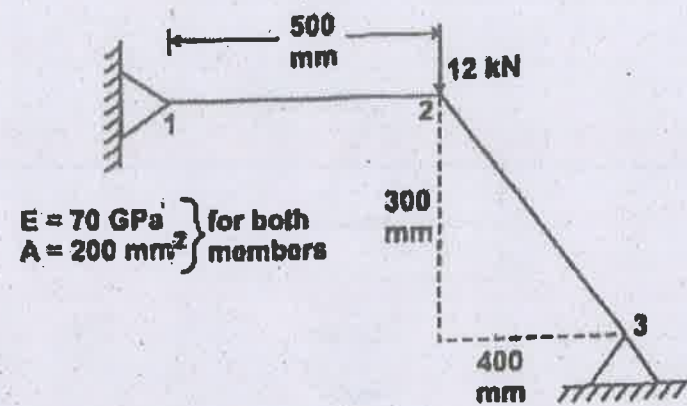

Fig. 5
16. (a) For the two bar truss as shown in Fig. 5 determine the displacements at node 2 and the stresses in both elements.